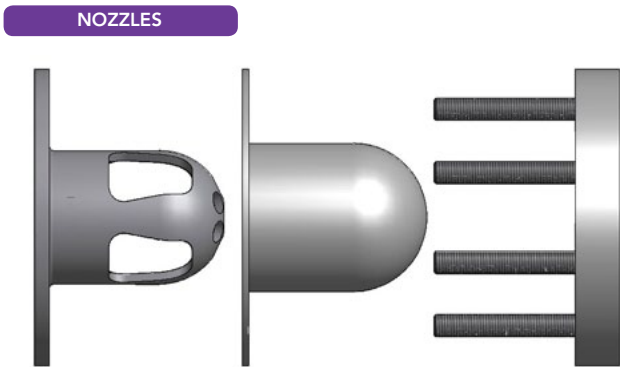
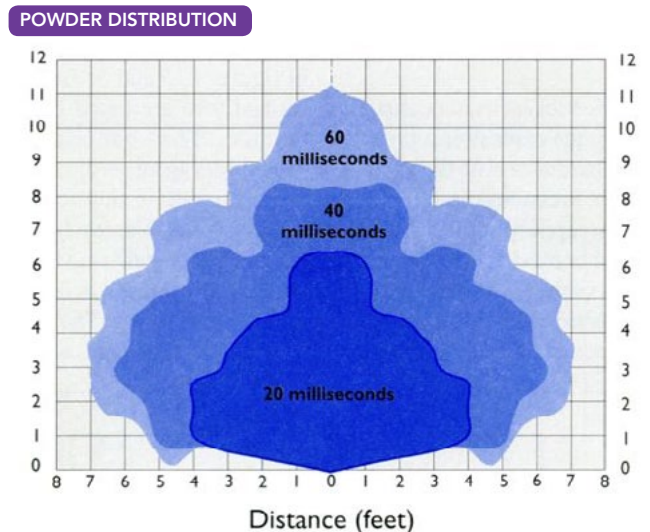

Figure 7. Dispersion nozzles fitted with protected caps are mounted to extend into the vessel to ensure uniform suppressant distribution.
Figure 8. Hemispherical suppressant powder distribution is attained when using nozzles with large openings in the top and sides.
*Nozzles.* To ensure a uniform suppressant distribution in the vessel to be protected, dispersion nozzles, fitted with protected caps are mounted to extend into the vessel (see Figure 7). Traditional suppression systems used “pepperpot” style nozzles which aren’t very suitable for powder-based suppression systems. Instead, nozzles with large openings in the top and sides have been developed to ensure a hemispherical, fast and uniform distribution of the suppressant (see Figure 8).